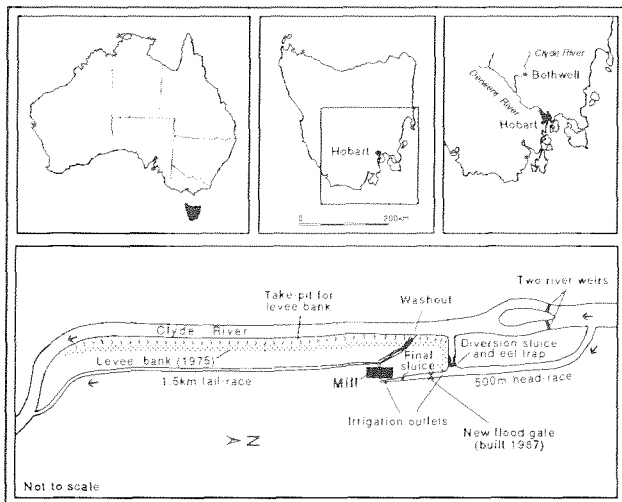

Fig. 3: Sketch-map showing the location of Thorpe Watermill and the arrangement of its races.
*Fig. 1: Thorpe Watermill in 1910. This photograph shows the western side of the building and includes several skilions that no longer exist. The little girl on the pony is Madge McDowall (later Downie), a great aunt of the author. In the foreground is the washout indicated on Figure 3.*
An unusual and seemingly inefficient piece of engineering seems to have occurred in the siting of the mill (Fig. 3). The head-race is only a few hundred metres long, while the tail-race is about 1.5 km long. This meant that the tail-race had to be dug 2.5 m below ground level adjacent to the mill and then extended for the 1.5 km to get back to the same level as the river. The more normal and efficient layout was to extend the head-race, which need only be a constant 1 m deep, for as long as was necessary to achieve the required 'head' for the waterwheel. The mill was then built just above river level, with the tail water virtually dropping straight back into the river.